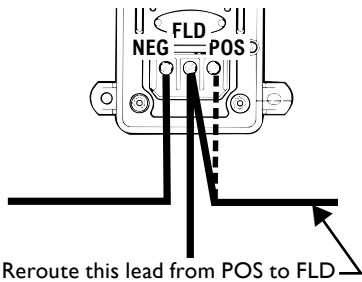

Figure 2 – 50-RD Regulator Modification
- 50-RD regulator – see Figure 2. Disconnect POS lead at POS terminal on regulator and reconnect to FLD terminal on regulator. Torque #10-24 screw to 2.3 Nm/20 lb. in.